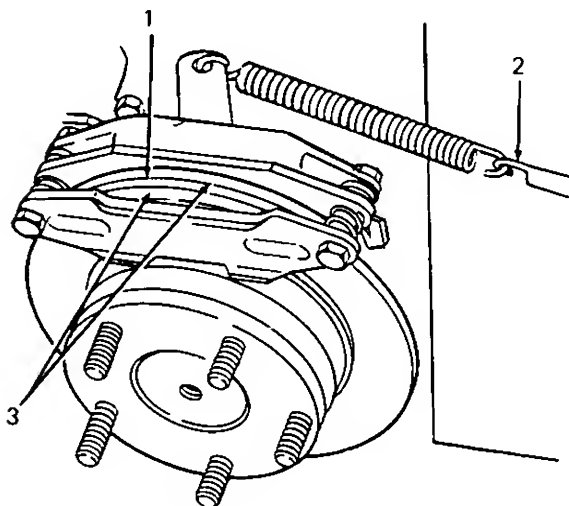

Figure 27
2. With the 1/2 inch thick wood block installed, the brake disc pads should be applying a light amount of friction against the brake disc rotor. If they are not, the brakes need adjustment (see Figure 27).
Thread the clevis onto the brake rod one turn. Reconnect the clevis to the jackshaft assembly. There should be a minimum amount of clearance (no drag) between the brake pads and the rotor. If not, repeat adjustment as necessary. (See Figure 27.)
Figure 27 is shown with the wheel and fender assembly removed for clarity.